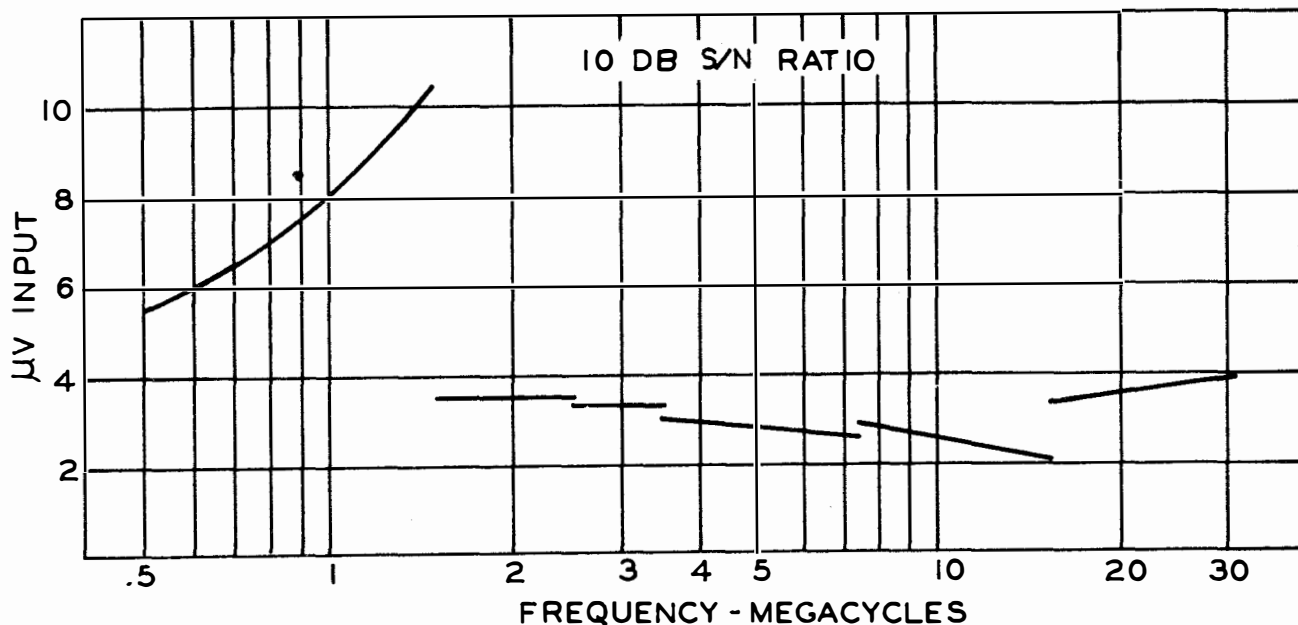

Figure 7-4. VFO Adjustment Tool
(b) Vfo Adjustment tool (not supplied - see figure 7-4).
(l) Remove the hex plug from the front of the oscillator. Using the outer part of the special vfo adjustment tool illustrated in figure 7-4, loosen the lock nut that is visible when the hex plug is removed. Insert the screwdriver portion of the vfo tool into the outer portion. Adjust the trimmer screw by turning the screwdriver until zero beat is again reached. Tighten lock nut, being careful to retain zero beat.
**THE TOOL USED FOR THIS ADJUSTMENT IS NOT SUPPLIED, MACHINING DIMENSIONS ARE SHOWN IN FIGURE 7-4.**